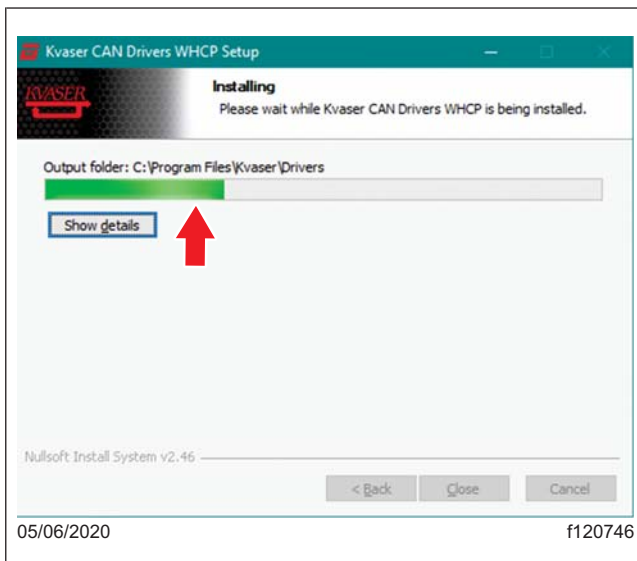

Fig. 13, Kvaser Installation Progress Bar
- A bar shows the progress of the Kvaser installation. See Fig. 13.